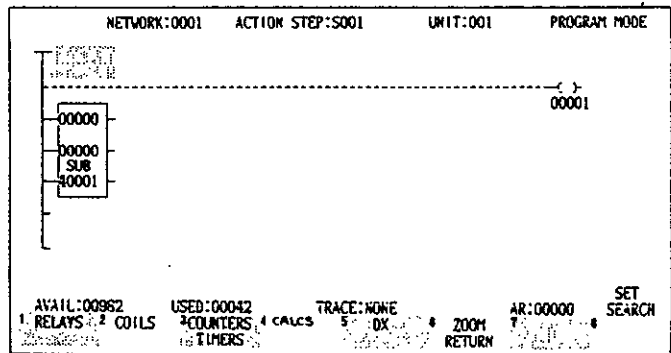

Fig. 6.103
4. To return to the SFC screen from the display of Fig. 6.103 or 6.104, depress **ZOOM RETURN** key.